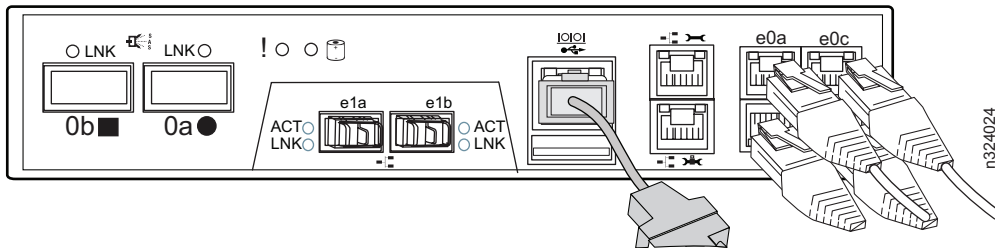

Figure 11. Cabling the networking and management ports
3. Connect your system to the network by plugging the network cables (as shown in Figure 11) into the networking ports, labeled e0a, e0b, e0c, and e0d.
- If you are making SAS connections to N series storage expansion units and you plan to use Alternate Control Path (ACP) cabling, connect the N3220 system private management port (with the  icon) to an ACP port on the SAS stack using a CAT6 Ethernet cable (Figure 11 on page 7).